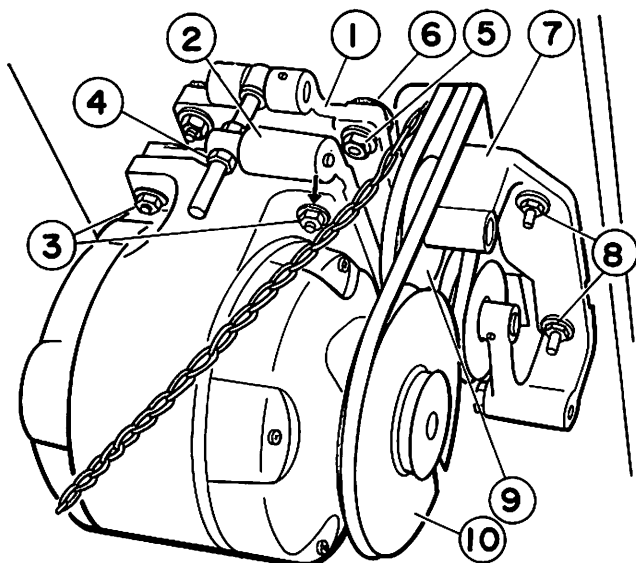

Fig. 1
As shown in Fig. 1, turn the table up side down and connect all motor components ①. The head of the installing base bolt ⑤ should come out on the top surface of the table through the hole in the table.
The idler pulley components ⑦ should be installed to the bottom surface of the table by hexagonal bolts ⑧ of 15/64", Fig. 1. As the installing hole is rather large, be sure that the belt is not contacting the base of the head part and the positions of the idler pulley ⑨ and the motor pulley ⑩ should be so adjusted that they will not be touching each other.